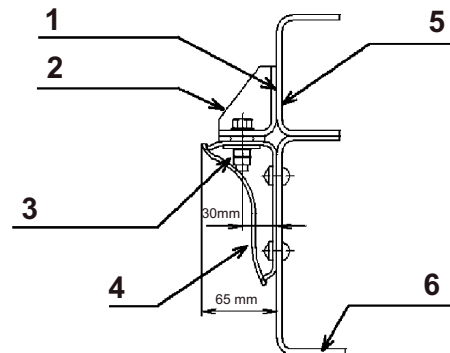

Fig. 7
- If the chassis frame changes its width behind the cab back as shown in Fig. 7 and the mounting frame should extend forward beyond the width-changed portion, the mounting frame must also change its width along the chassis frame. The portion of the mounting frame where the width changed must have the internal surface reinforced with stiffeners as shown in the figure.